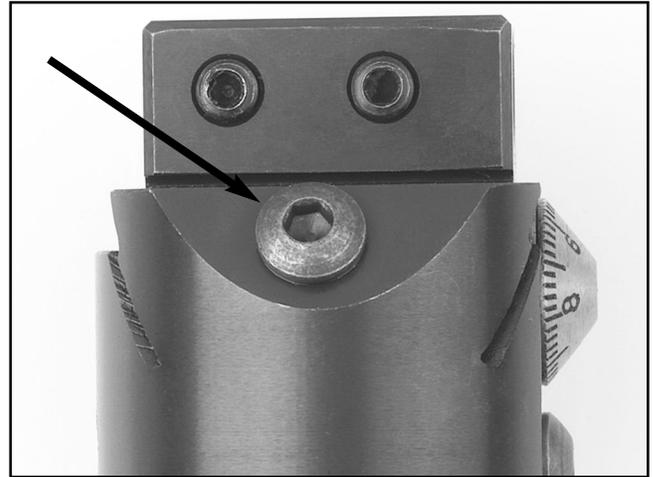

Figure 4. Button head screw.
2. To help with the indexing adjustments, the button head screw should be adjusted so there is a small amount of drag on the ways. When the dial is indexed to the desired graduation, completely tighten the button head screw. This will help in eliminating chatter and vibration, while improving the overall accuracy and finish of the bored hole (**Figure 4**).